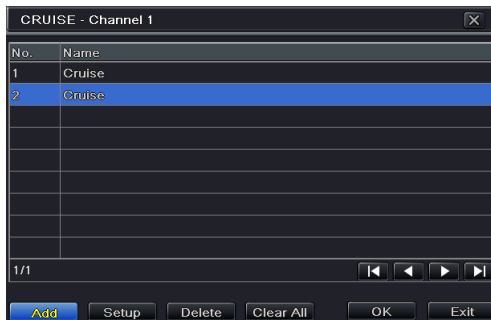

Fig 4-34 Cruise Setting
Step 1: In the Advanced interface, click cruise “Setting” button to see a window as shown in Fig 4-34: